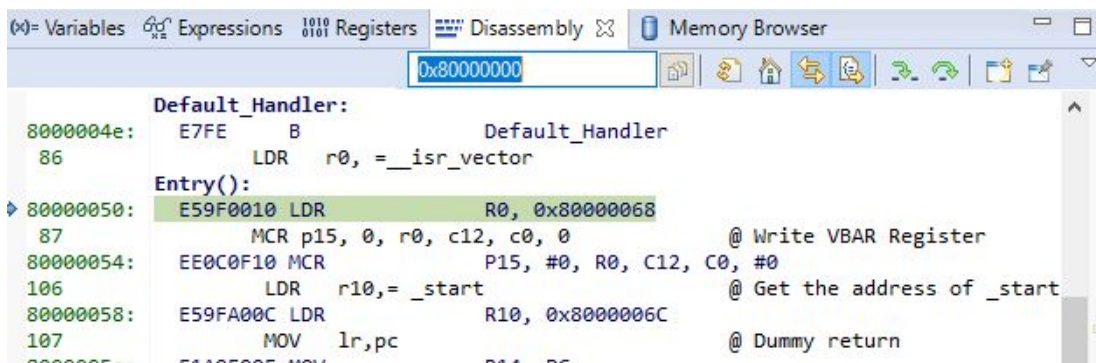

Figure 29 : Disassembly shows program execution
- During the course of debugging your program, you might need to make changes to your program code. For that, you can switch to the CCS Edit (shown in Figure 29) window by clicking on the **CCS Edit** tab in the upper right corner of the CCS window.